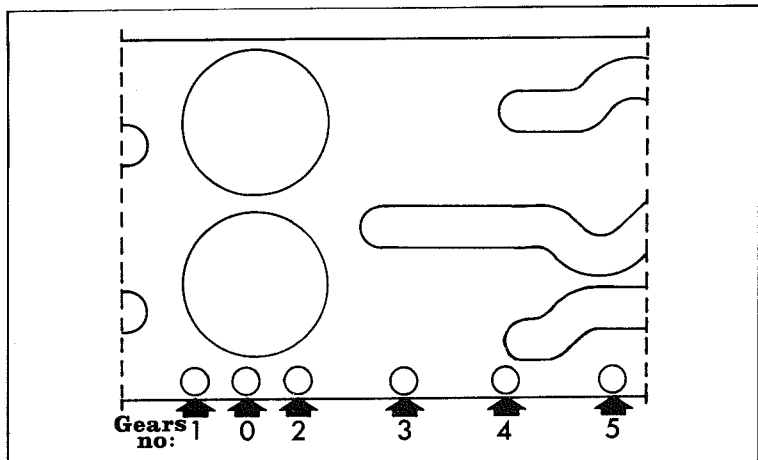

Fig. 17
17. The shifting drum is held in the various gear positions by means of its ratchet sleeve. The various locating positions of ratchet sleeve on the shifting drum will be evident from Fig. 17.